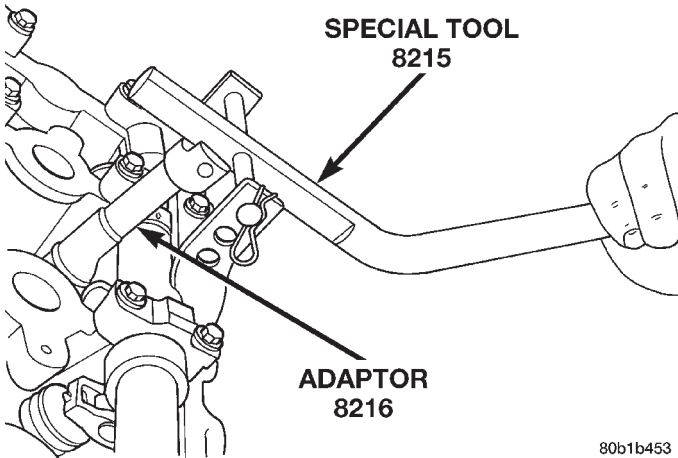

Fig. 42 Rocker Arm—Removal/Installation
(3) Using Special Tools 8215 and 8216 Adaptor, depress valve spring only enough to release tension on rocker arm (Fig. 42).
(4) Remove rocker arm from cylinder head.
(1) Lubricate with rocker arms with clean engine oil before installation.
(2) Rotate engine until cam lobe is on its base circle (heel) of rocker arm being installed.
(3) Using Special Tools 8215 and 8216 Adaptor, depress valve spring only enough to install rocker arm (Fig. 42).